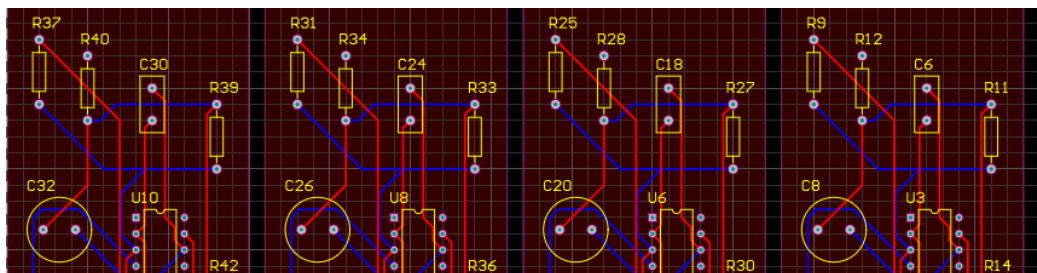

Figure 7. Rooms have unique designators after Board Level Annotate with Global Index
24. Return to the PCB and examine the newly updated designators, as shown in Figure 7.